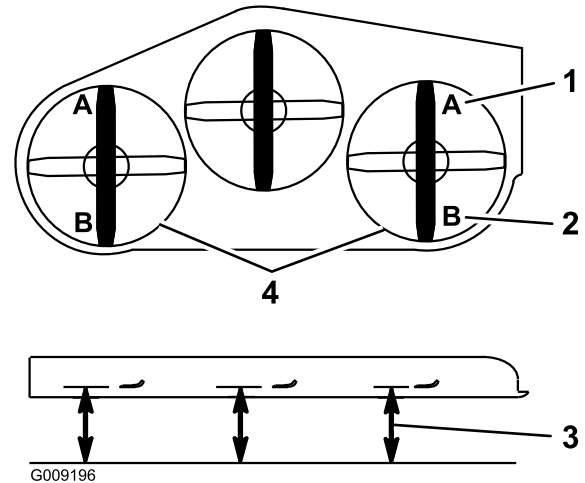

Figure 115
- On both sides of the deck, measure from the level surface to the front tip of the blade (Position A) as shown in Figure 115.
15. On both sides of the deck, measure from the level surface to the back tip of the blade (position B) as shown in Figure 115.